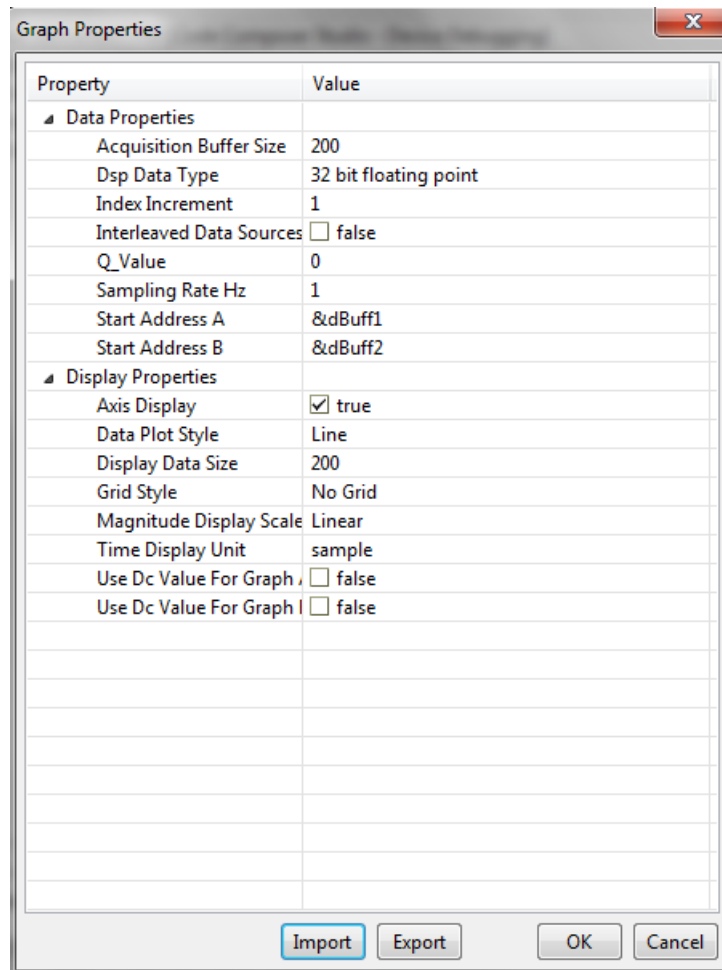

図 23. Graph Settings
8. Alternatively, the user can enter the values as shown in 図 23.
Figure 25 shows the graph window inside CCS that was set up previously (see Figure 23). The measured voltage and current AC waveform can be observed on these graphs.